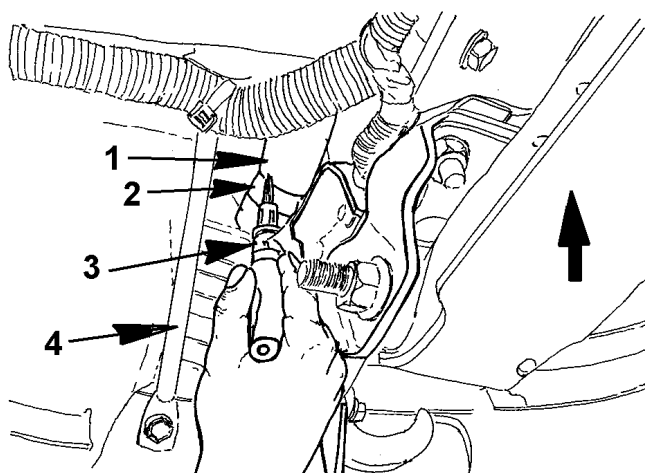

Figure 16 Passenger Side Lower Cooling System Hose And Clamp
4. Locate lower passenger side radiator hose and heat shrink clamp, and melt away heat shrink clamp (Item 2, Figure 16).